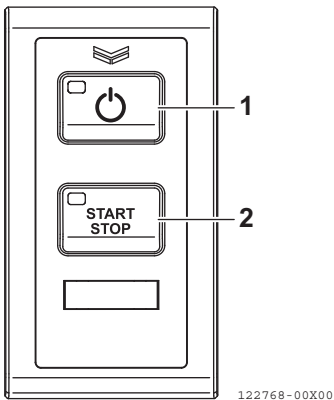

Figure 25
- 4. Press the Power switch on the switch panel of the selected station (Figure 25, (1)).
9. Press the Engine START/STOP switch (**Figure 25, (2)**) and power on the starter.